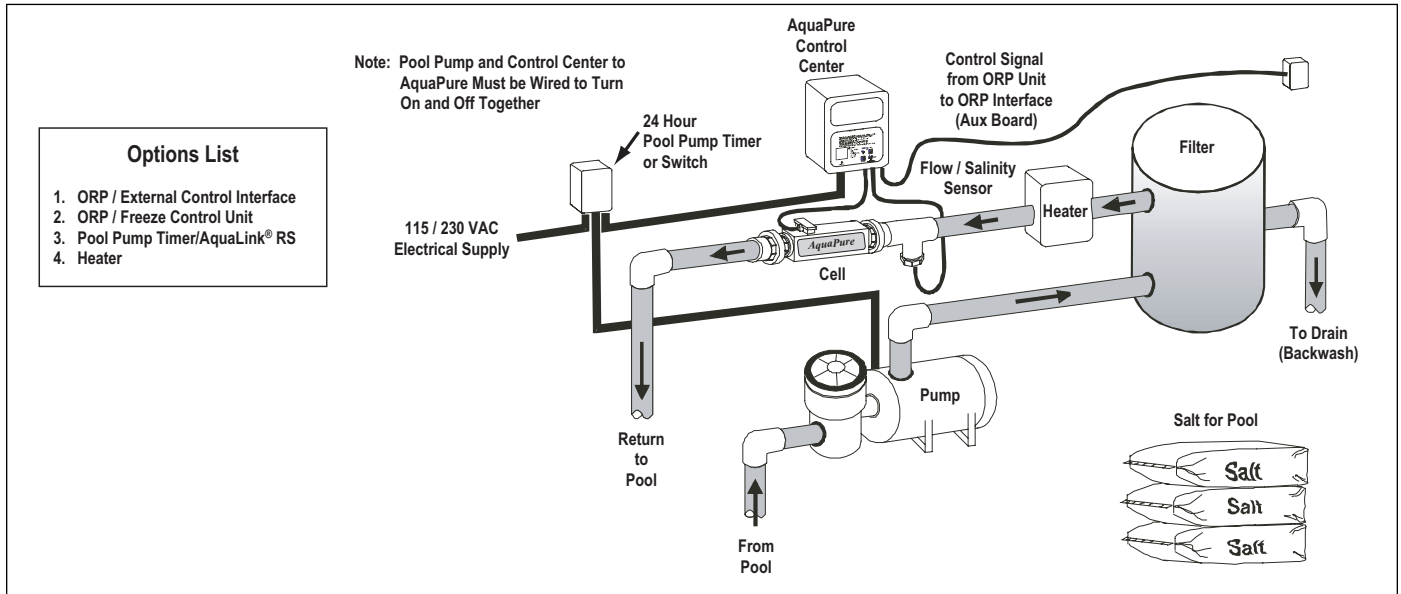
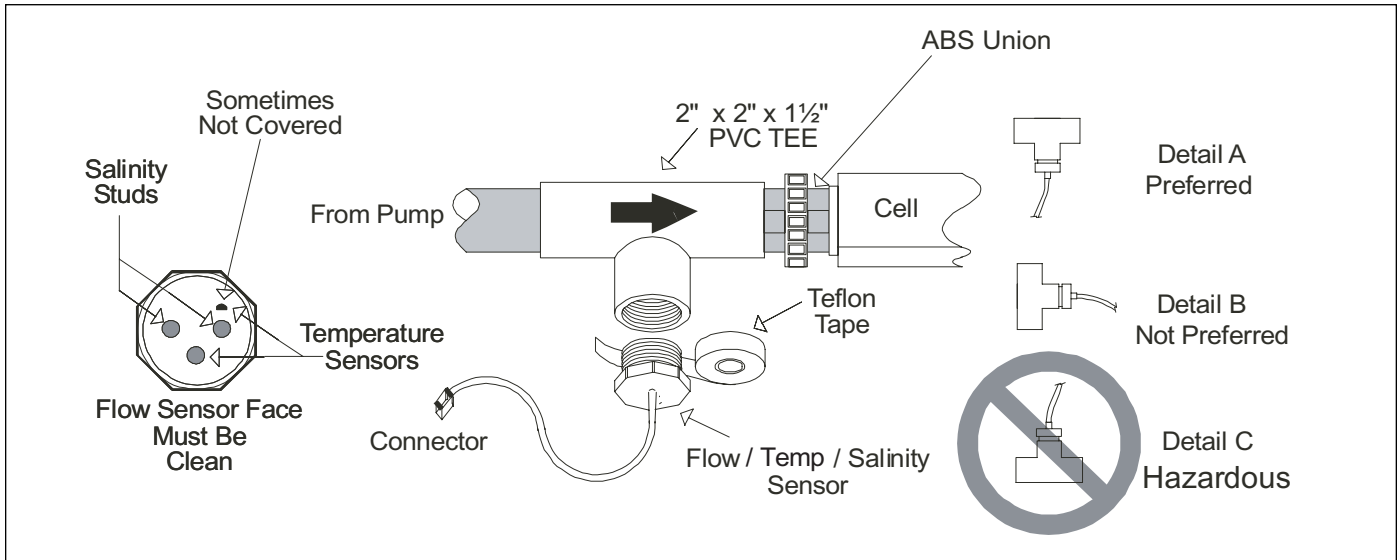

Figure 1. Typical AquaPure Installation With Options
Figure 11. Flow/Temp/Salinity Sensor
It is recommended that the water Flow/Temp/Salinity Sensor is installed in the same piping as the electrolytic cell, without any valves or diverters between them. (See page 5 Figure 1).
- Mount as shown in Figure 11 Detail A. This will result in the most reliable operation.
- (1) in the same line as the Electrolytic Cell.
- (2) with no valves or diverters between the Flow/Temp/Salinity Sensor and Cell.
- (3) preferably between the Pool Pump and the Cell.
- Do not mount the Flow/Temp/Salinity Sensor as shown in Detail C of Figure 11. This mounting position can be HAZARDOUS.
3. Position the Flow/Temp/Salinity Sensor Tee and Cell in the recommended position (See Figure 11 Detail A) and (page 5 Figure 1).